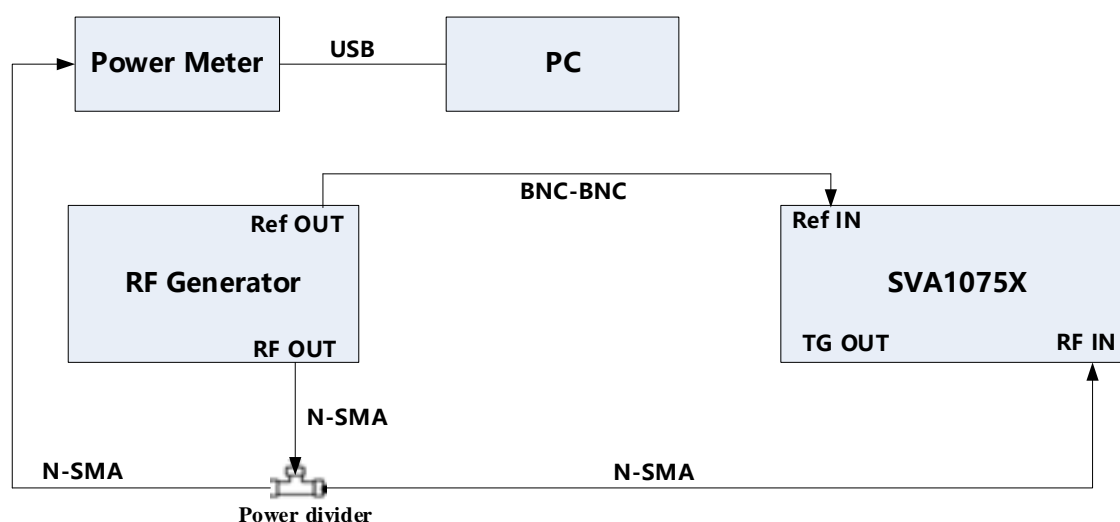

Figure 3-2 Frequency response connections
1. Connect the spectrum analyzer, signal generator and power meter as figure 3-2 shows